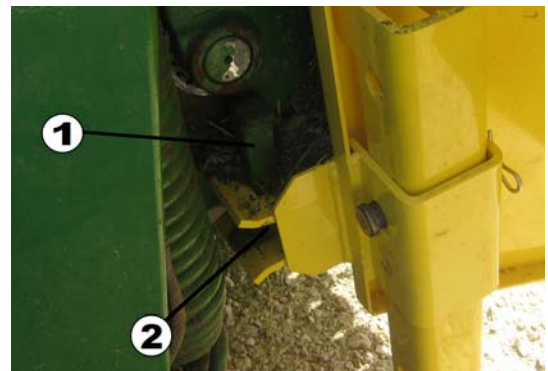

Figure 8. Lower Wedges
5. Raise the attachment such that the lower attaching points set into the attachment pockets as indicated in Figure 8. Install lower wedges.